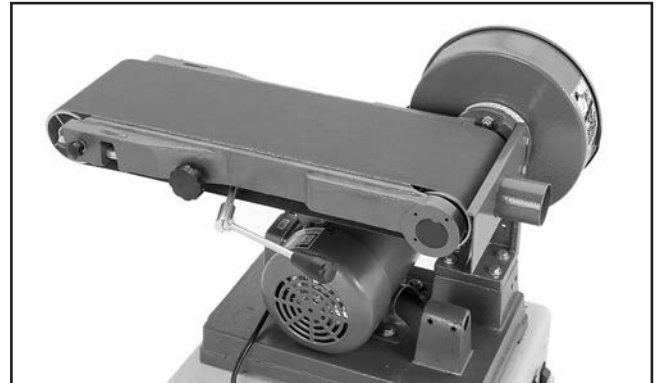

Figure 73. New belt installed.
6. Position the belt in the center of the roller, then move the quick release tension lever toward the motor to tension the belt (see **Figure 73**).